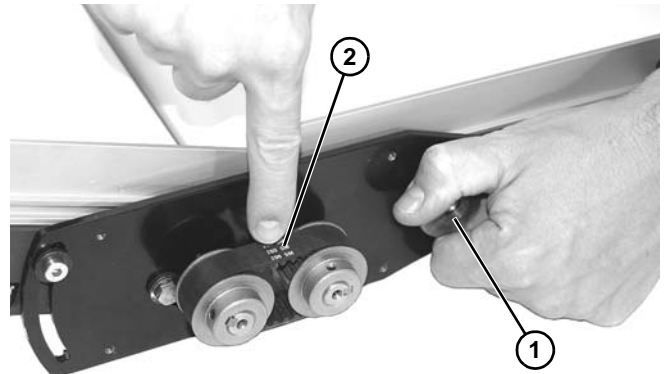

Figure 81
8. Rotate cam knob (**Figure 81, item 1**) to obtain 3-6 mm belt deflection at center of belt (**Figure 81, item 2**) with approximately 1360-2268 grams of force.